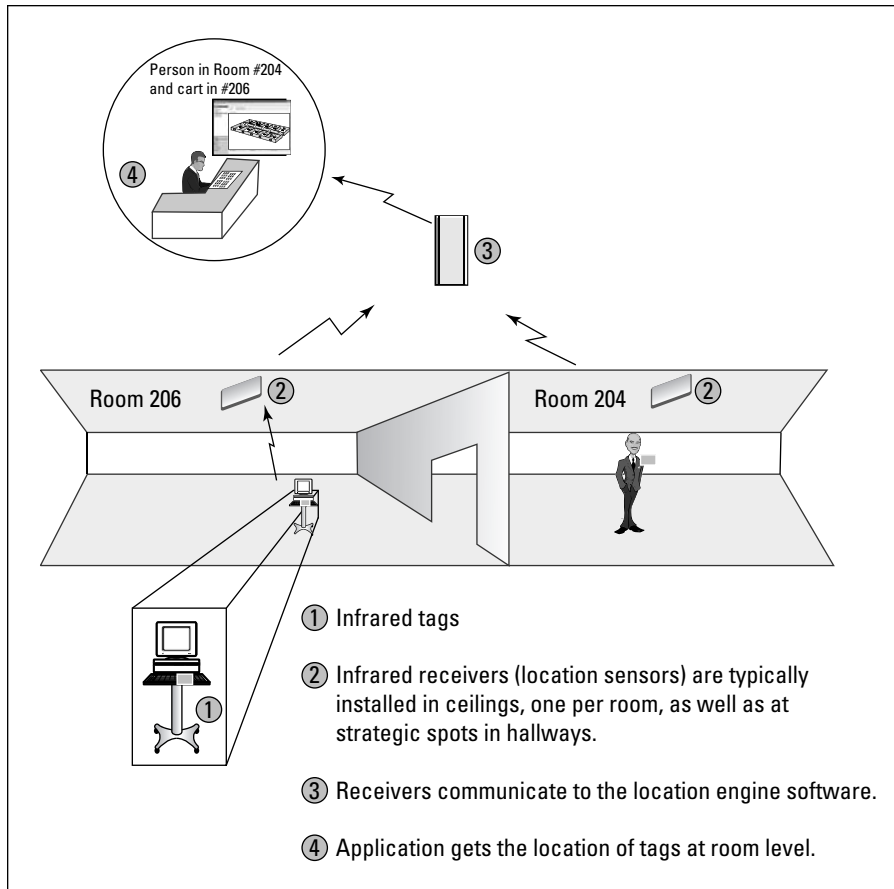

Figure 9-2:
In IR for an RTLS, diffused infrared is typically used because it eliminates the need for LOS (line of sight) with the room locator (infrared receivers) to receive the IR signal from tags. Diffused IR provides exceptional robustness against shadowing and behaves like radio-frequency (RF) waves within the enclosure in which they operate. People walking around don't interfere with the ongoing diffused IR communication; neither do obstructions in the room. See Figure 9-2.